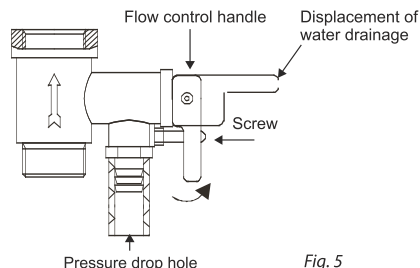

Fig. 5
- unscrew the back pressure safety valve screw and set the handle in horizontal position; water will flow out from the pressure relieving opening (refer to the figure 5).
5. **The water heater is equipped with a temperature limiter (figure 5)** which cuts off power supply to the heating element upon water overheating or its absence in the water heater. If the water heater is connected to the electrical main, but water does not heat and the handle lamp does not light then the temperature limiter was switched off or not switched on. To reset the water heater to the operating condition it is necessary to: